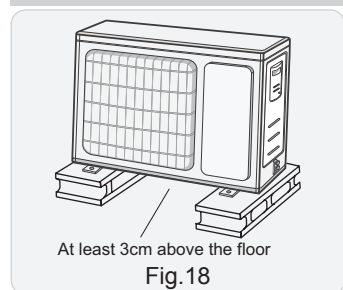

Fig.18
- The outdoor unit should be installed at least 3cm above the floor in order to install drain joint.(As show in Fig.18)